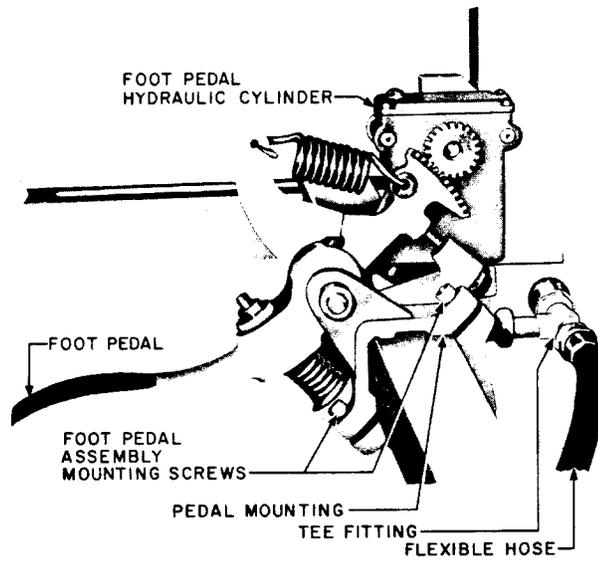

Fig. 3 – Foot-Pedal Assembly (drip pan and covers removed)
4.03 Hold the connector of the hose fitting at the tubing end with the R-1542 wrench and unscrew the nut engaging the connector with a second R-1542 wrench. Disengage the connector from the tubing. Then hold the tee fitting on the hydraulic cylinder (Fig. 3) with the R-1542 wrench and disconnect the hose using the 245 wrench. Remove the foot-pedal assembly mounting screws using the R-2812 wrench and remove the assembly. Remove the drip pan and cloth.